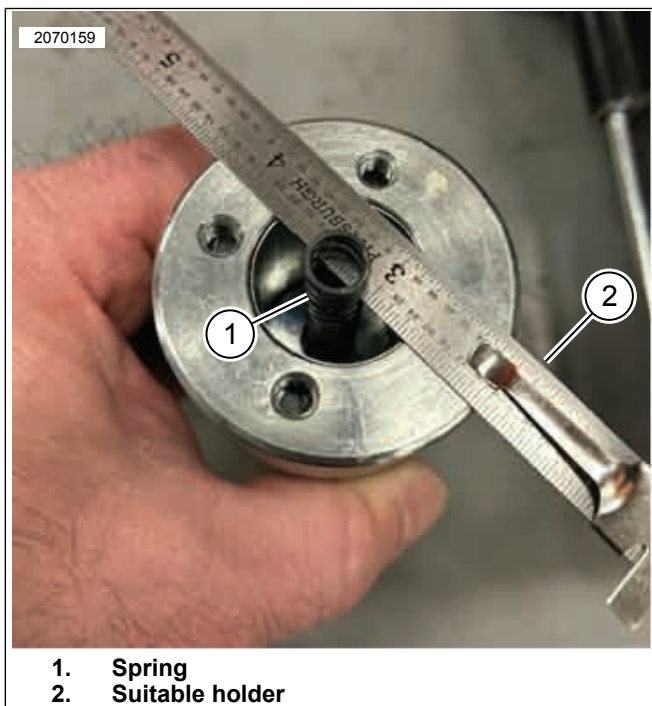

Figure 41. Suitable Holder
- b. See Figure 41. Hold spring (1) in place with suitable holder (2). Suitable holder can be a popsicle stick, cable tie or other thin flat object.